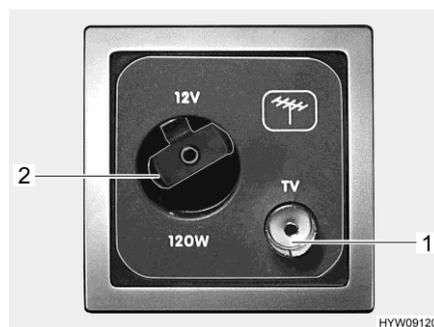

Fig. 51 Sockets (DVB-T antenna)
- Plug the connecting cable of the DVB-T antenna into the socket provided (Fig. 51,1).